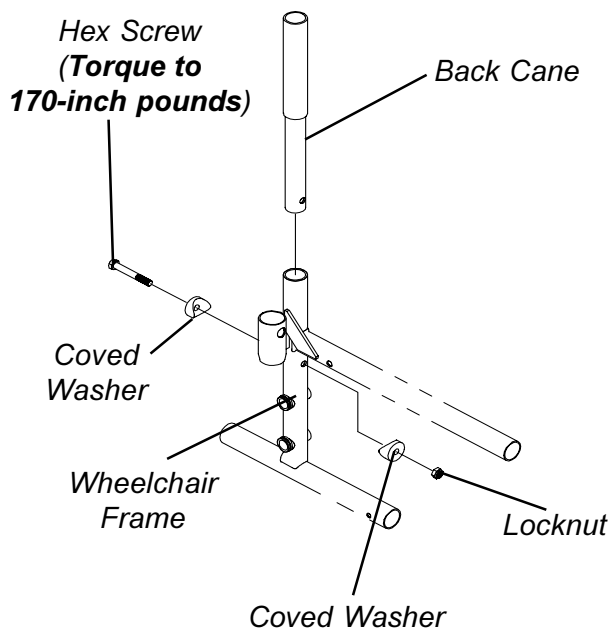

FIGURE 1 - ASSEMBLING THE BACK CANE TO THE WHEELCHAIR
ASSEMBLING THE BACK CANE TO THE WHEELCHAIR (FIGURE 1)
2. Insert the two (2) back canes into the two (2) mounting holes in the wheelchair frame.
3. Position the mounting hardware through the wheelchair frame and back canes as shown in **FIGURE 1**.